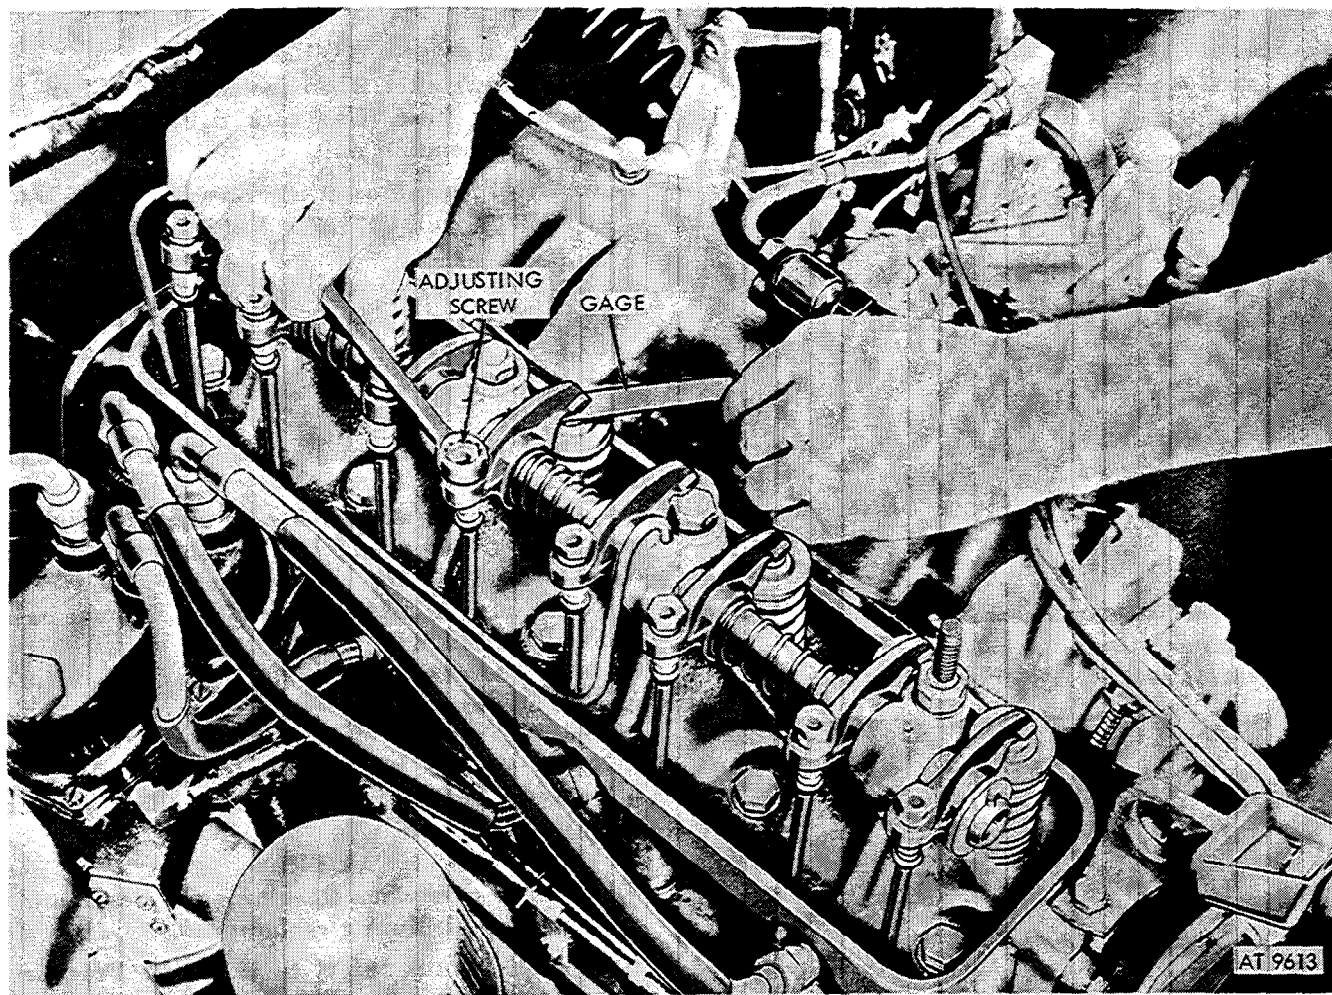

Figure 2-66. Adjusting valve clearance.
*b. Adjustment.* Minimum permissible adjusting screw torque is 5 ft-lb. (fig. 2-66).
(1) Operate engine for a minimum of 30